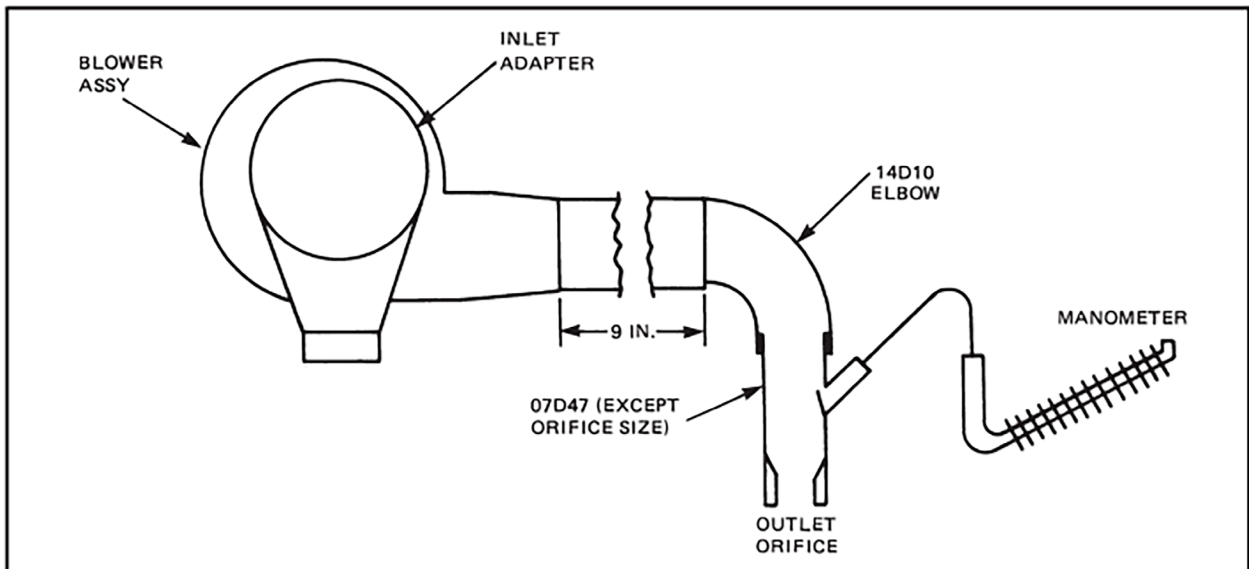

Figure 5-1 - Combustion Air Blower Test Setup
- (1) Attach the air blower assembly to an exhaust vent equipment with 0.75 inch outlet orifice as shown in Figure 5-1.
- (2) Connect the motor source to power source capable of 12V or 24V DC output
- (3) The manometer should read a minimum of 1.5 inches of water at 12V or 24V.